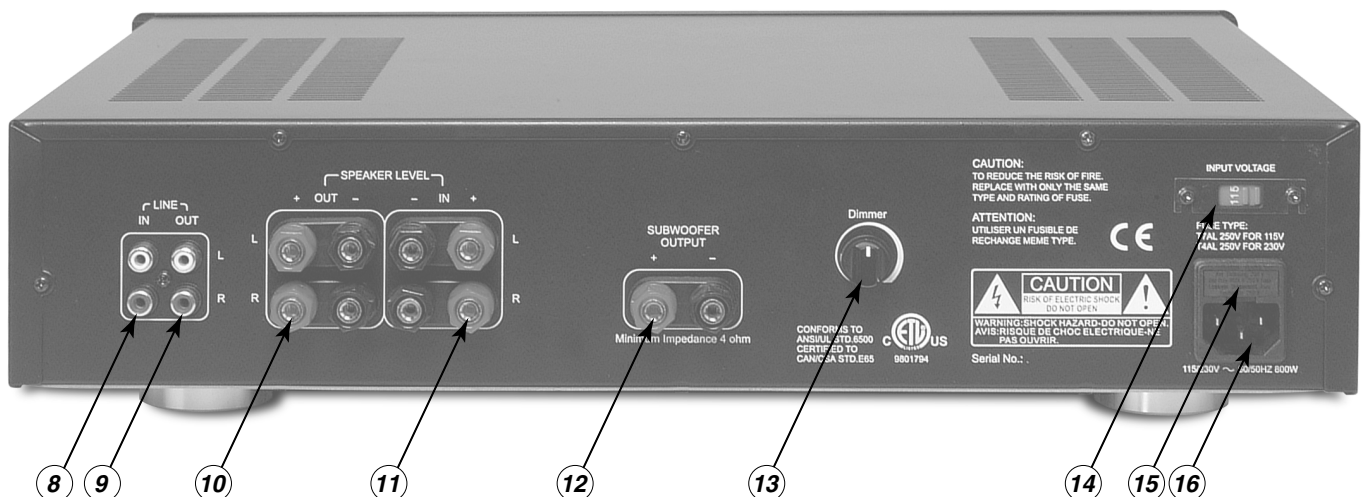

Figure 2
5. Crossover Switch: This switch allows the amplifier's internal low-pass filter to be defeated when using an external crossover, or when the crossover is not needed. When defeated (off), the subwoofer output will play the full-range of the audio signal. This switch has no effect on the high level inputs and outputs shown in Figure 2, #10 and #11. The high level output (figure 2, #10) has a 100 Hz high pass filter that is not adjustable nor defeatable.
The following list describes the *rear* panel of the amplifier and control functions (refer to fig. 2 on previous page).